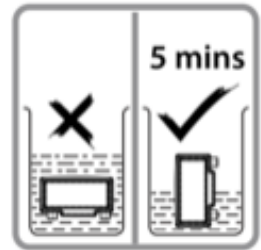

FIGURE 1
13. Do not touch the surfaces marked with this symbol during or just after ironing. The appliance will be hot! (Please refer to the following figure 1 and figure 2)
4. Immerse new anti-scale cartridge into water for 5 minutes before first use for improved performance (Figure 1)